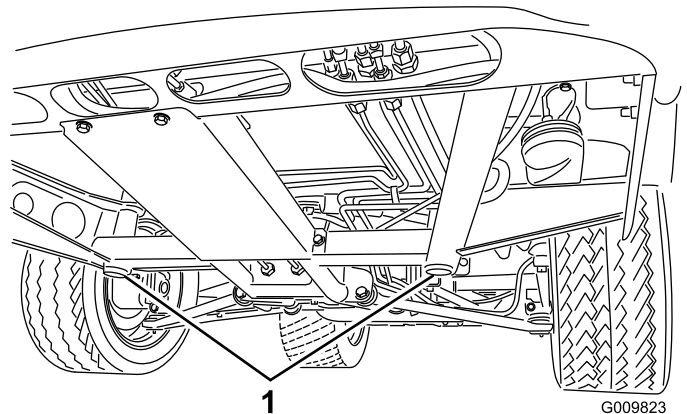
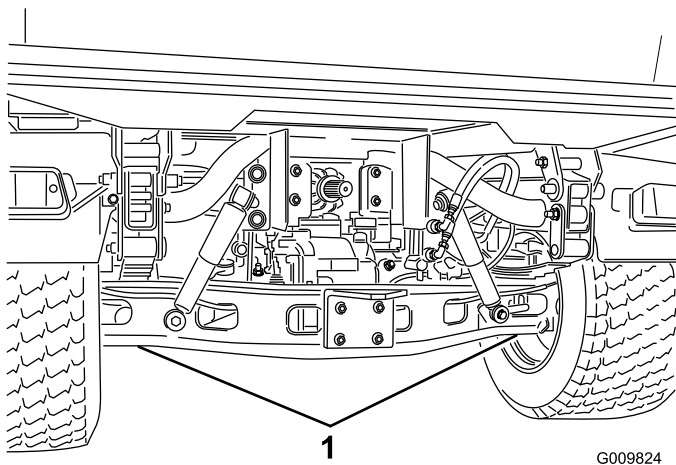

Figure 35
Figure 36
- The jacking point at the front of the machine is under the front center frame support (Figure 35) and at the rear it is under the axle (Figure 36).